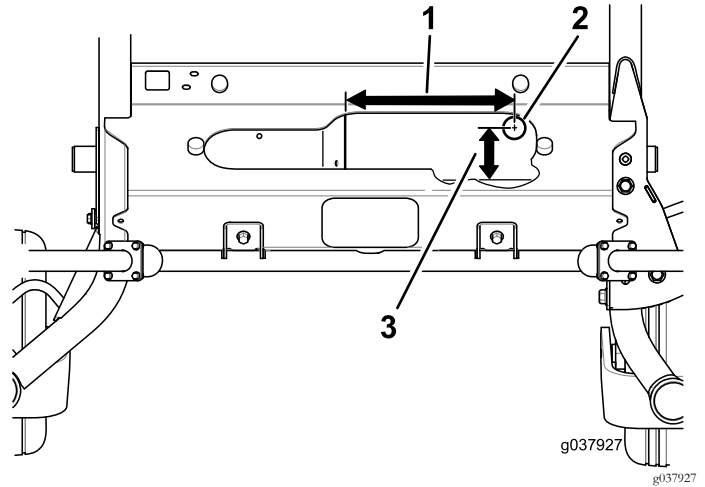

Figure 4
4. Drill the holes as shown in Figure 4.